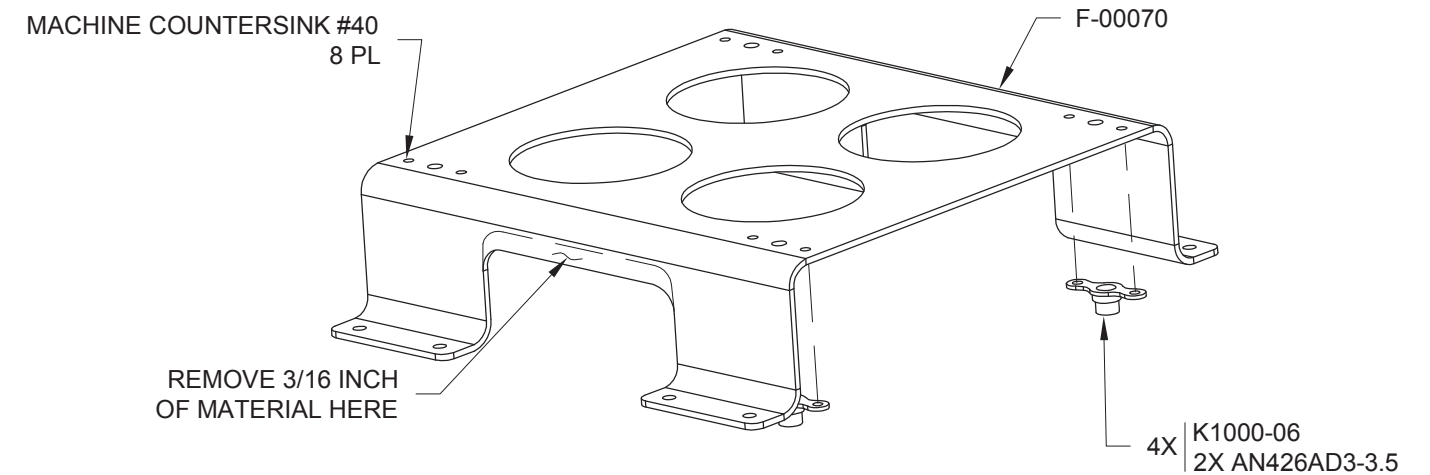

FIGURE 2: RIVETING NUTPLATES TO THE GDL 39R BRACKET
- Step 5: Machine countersink the upper face of the bracket to accept the head of an AN426AD3 rivet. See Figure 2.
- Step 6: Install nutplates to the bottom face of the bracket. See Figure 2.
- Step 7: Remove material from the bracket where indicated in Figure 2.